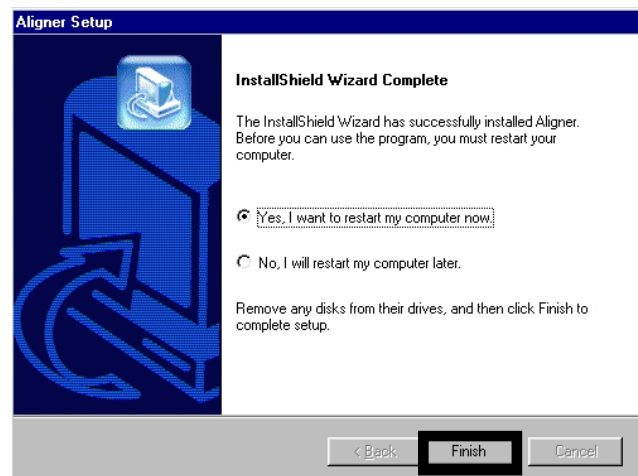

Figure 3-14
12. After a successful installation the Install Shield Wizard will display a installation complete. The unit will need to be re-booted before you can use the program, click on **<FINISH>** to re-boot the aligner. (Figure 3-14)